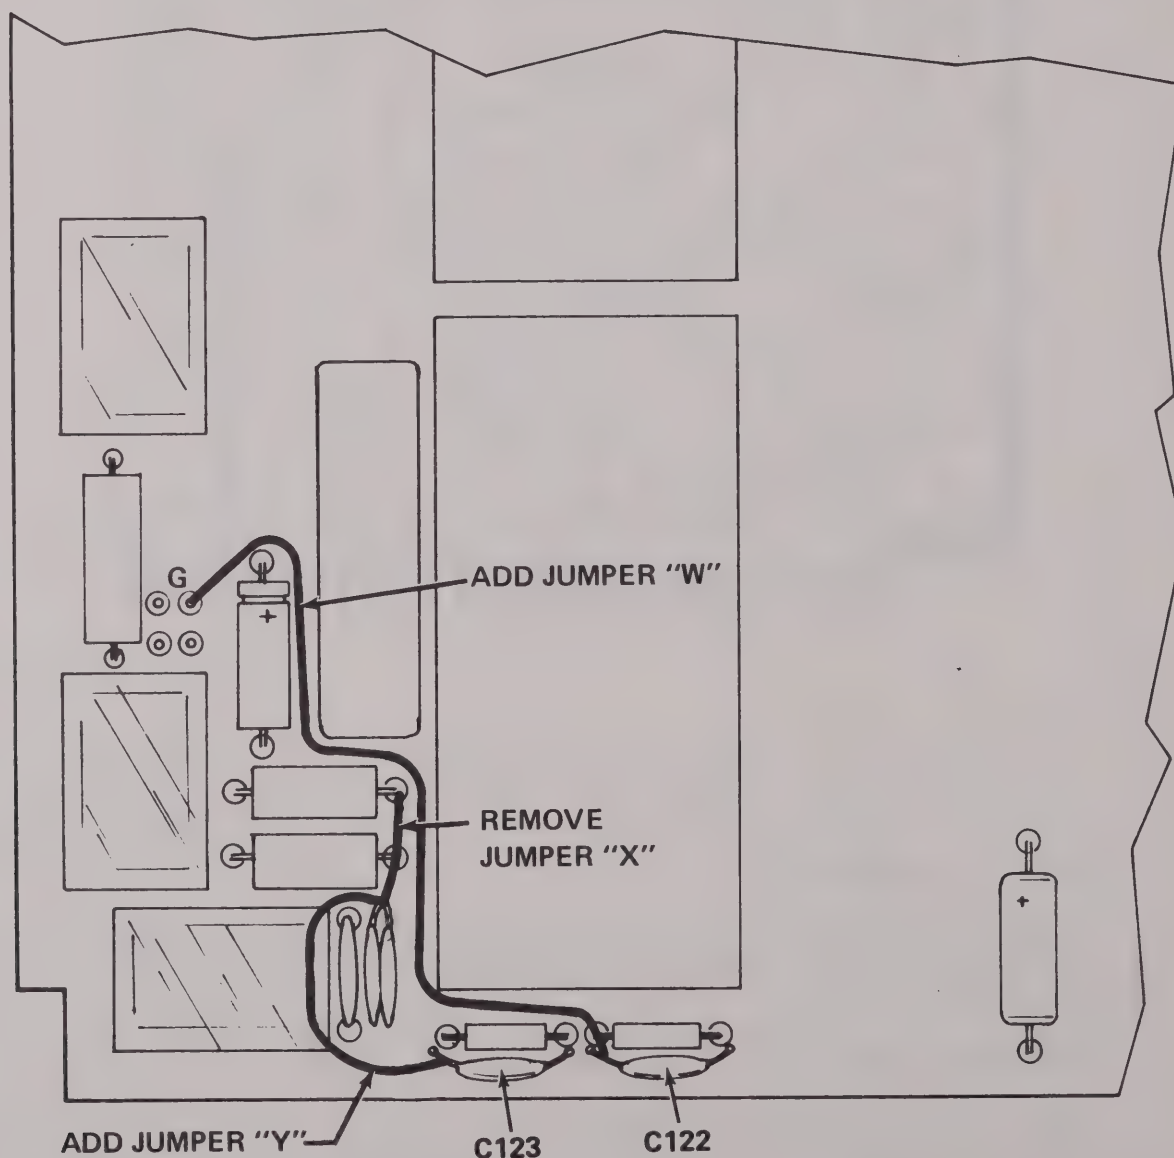

Figure 3. Component Side of I/O Trunk Board TRN6469A
For only those terminals that shipped before April 21, 1978, remove jumper "X" as shown in Figure 3.
For all terminals shipped before November 10, 1978, add an insulated jumper wire (jumper "W") from programming Pin G to C122 as shown in Figure 3. The procedure for doing this is as follows:
- (b) Carefully solder jumper "W" on the component side of the board between the base of Pin G and C122 (i.e. communications ground "C"). Route the jumper as shown in Figure 3.
For only those terminals that shipped before April 21, 1978, also add jumper "Y", as shown in Figure 3. Use insulated wire for the jumper.